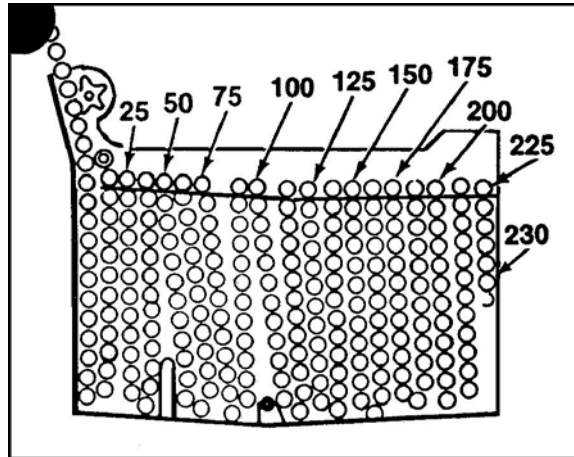

Figure 6. HE ammunition can full.
11. Lift the ammunition belt loops over the baffle (Figure 6).